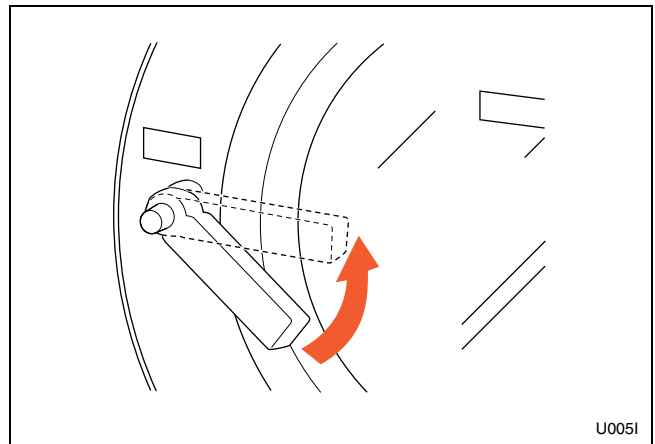

Figure 6
4. Close door and turn handle counterclockwise until button pops out. Refer to *Figure 6*.